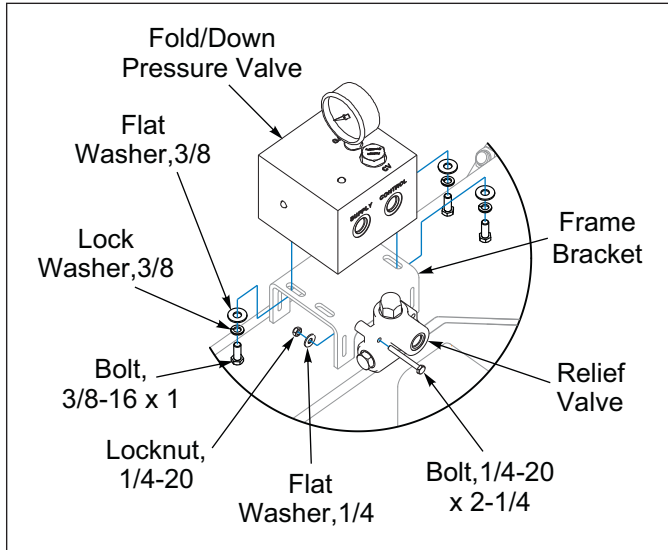

Figure 2-19: Fold/Down Pressure and Relief Valves
1. Attach Fold/Down Pressure Valve to Frame Bracket with 3/8-16 x 1 Bolts, Flat and Lock Washers and attach Relief Valve to Frame Bracket with a 1/4-20 x 2-1/4 Bolts, Flat Washers, and Locknuts. **See Figure 2-19.**